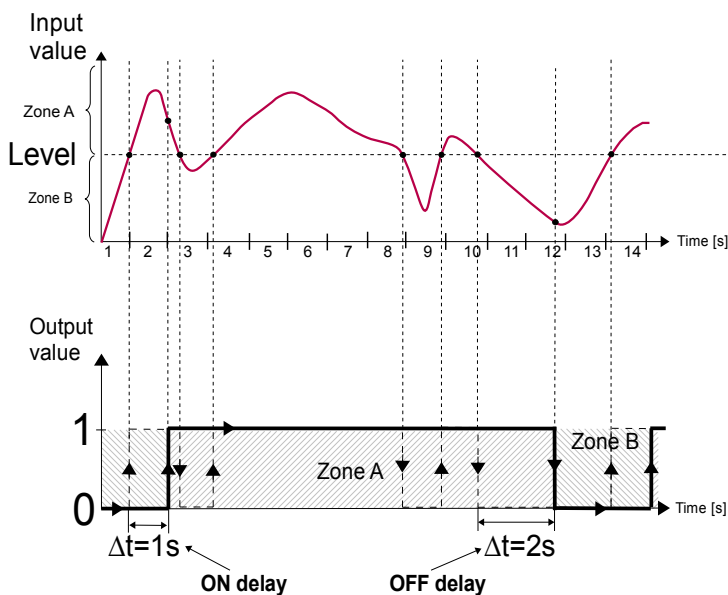

Fig. 7.86. Principle of virtual relay operation for sample timing settings:
- **ON delay** - this parameter allows to set the time that must pass from the time of exceeds **Level** value until the output switches from low to high state (see Fig. 7.86),
- **OFF delay** - this parameter allows the user to set the time that must pass from the time of exceeds **Level** value until the output switches from high to low state (see Fig. 7.86),